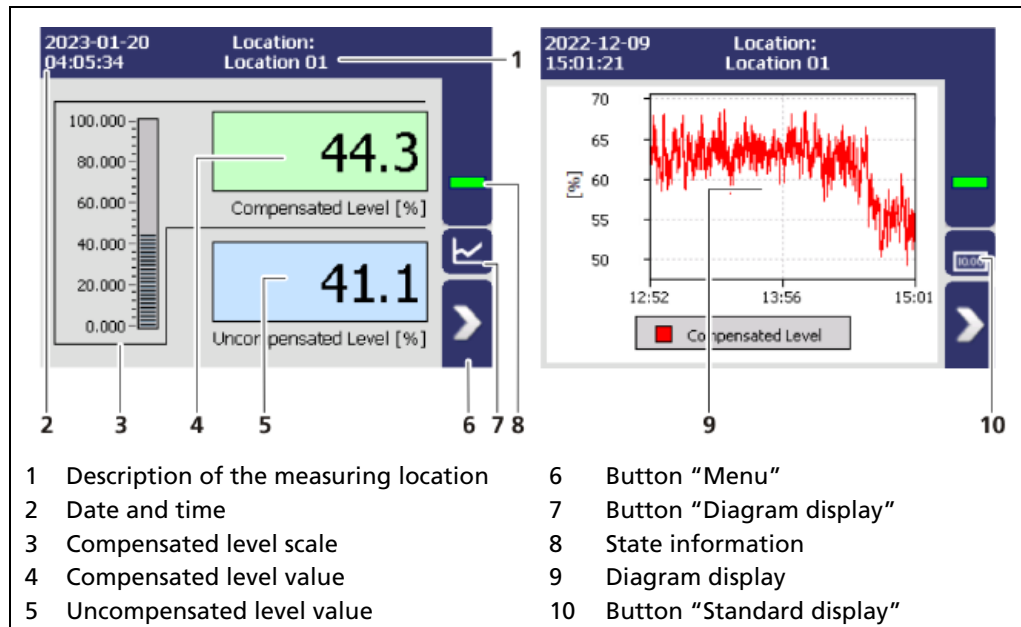
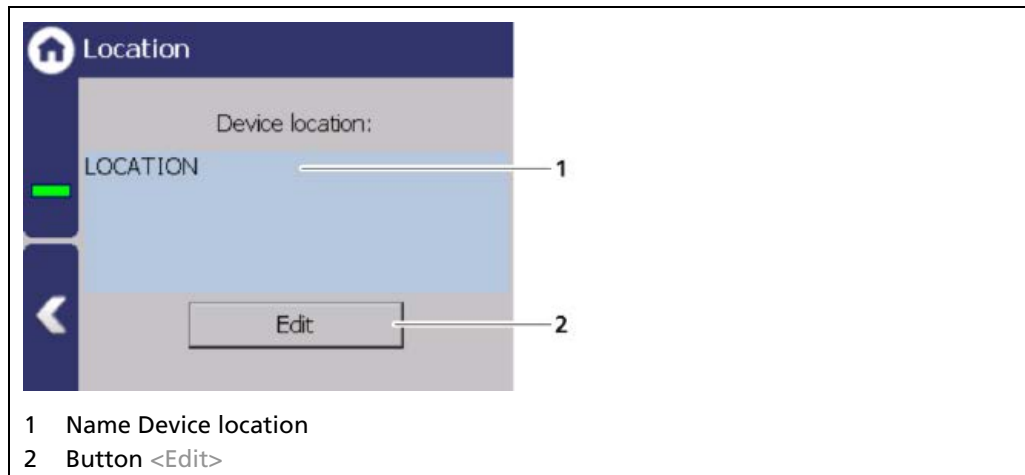

Fig. 17 Display of the EVU (left: standard display; right: diagram display)
Fig. 24 Device Location
The location of the evaluation unit is displayed (Fig. 24, item 1) in the "Location" menu. The name can only be edited (7.2 Menu Access) in the access level "Standard". The Location is displayed on the EVU standard display (Fig. 17, item 1).
1. Click <Edit> (Fig. 24, item 2) to open the input field.